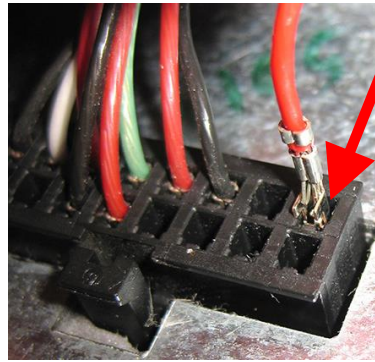

Figure 47
54. Locate the 16-pin connector on the rear of the MIB board. Insert the red wire into the far right rear position (pin 8) (see Figure 47). Ensure the two tabs fit properly into notches in connector.